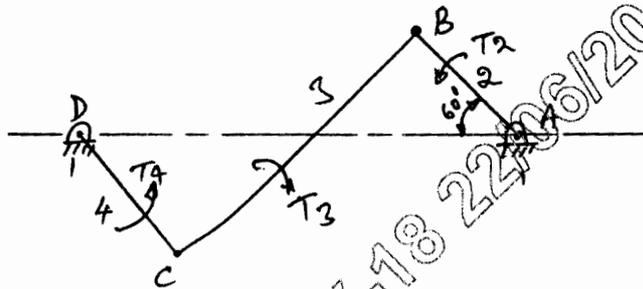

Fig Q2(b)
b. In a four bar mechanism shown in Fig Q2(b) Torque  $T_3$  and  $T_4$  have magnitudes of 3000 Nm and 2000Nm respectively. Take  $AD = 800\text{mm}$ ,  $AB = 300\text{mm}$ ,  $BC = 700\text{mm}$  and  $CD = 400\text{mm}$ . For static equilibrium of mechanism, find the required input torque on the crank.